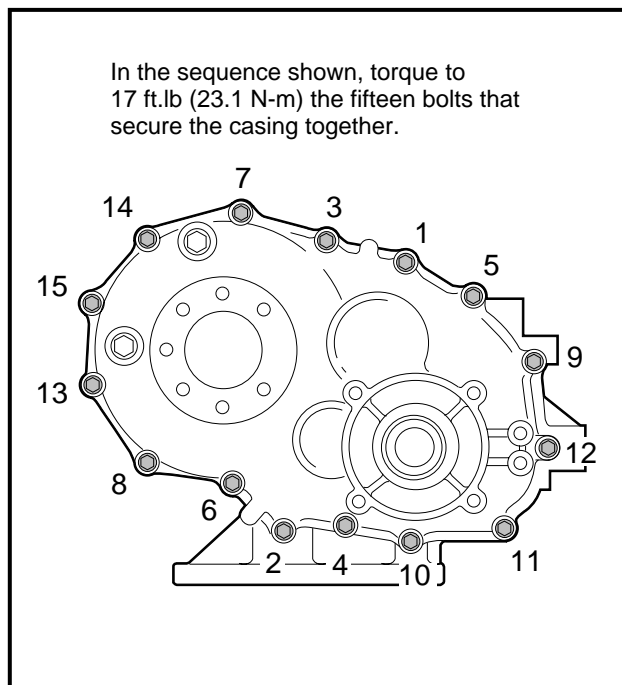

Figure 16-81 Casing Torque Sequence
10. Install and finger tighten the fifteen bolts (27) (**Figure 16-35, Page 16-14**) that secure the left and right sides of the case together. Then, in sequence shown, tighten the bolts to 17 ft-lb (23.1 N·m) (**Figure 16-81, Page 16-33**).